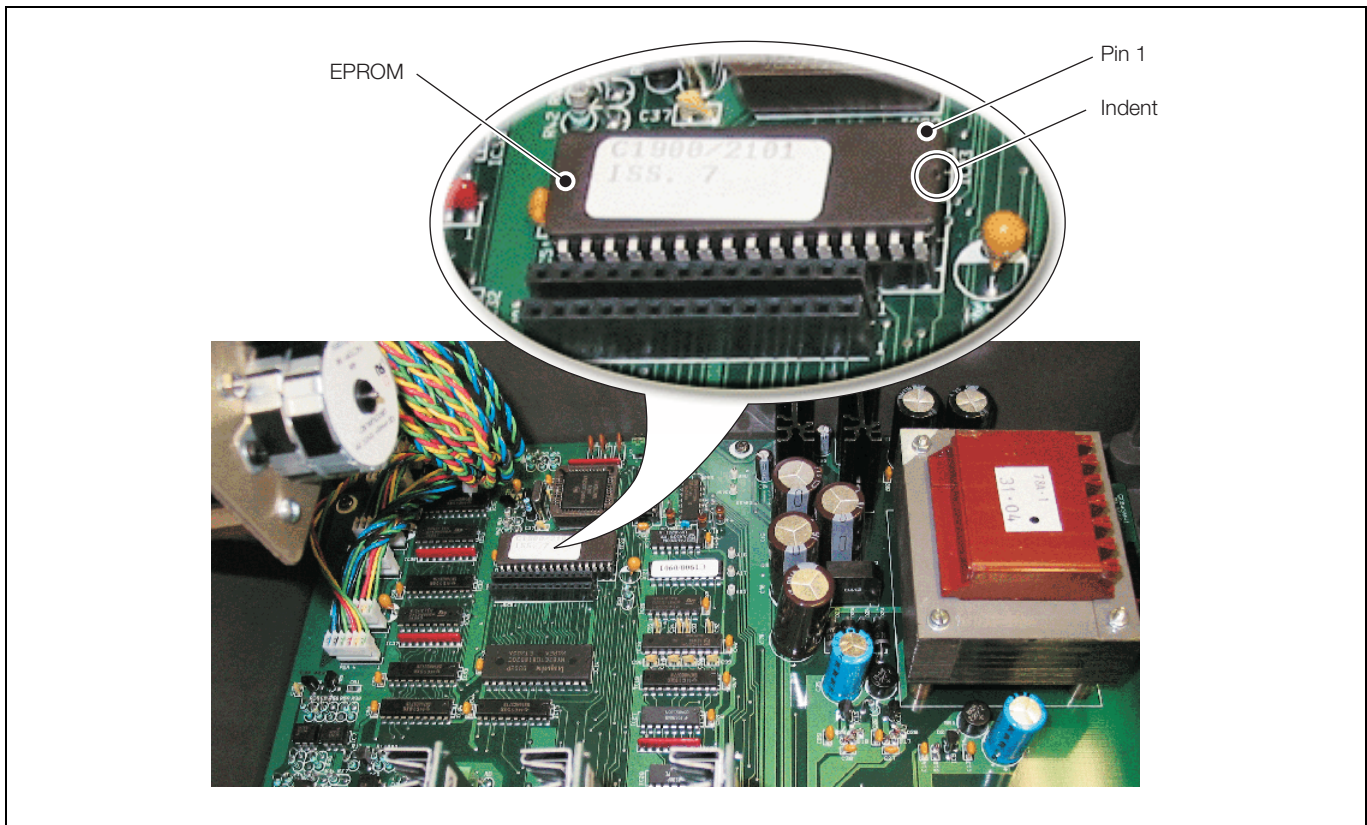

Fig. 3.5 EPROM Identification
6. If a Mk.1 main board is fitted, refer to Fig. 3.5 on page 6 to identify the EPROM IC23.
9. Fit the EPROM supplied with the Mk.2 module board, ensuring that Pin 1 and the indent on the edge of the EPROM are oriented as shown in Fig. 3.5 on page 6.